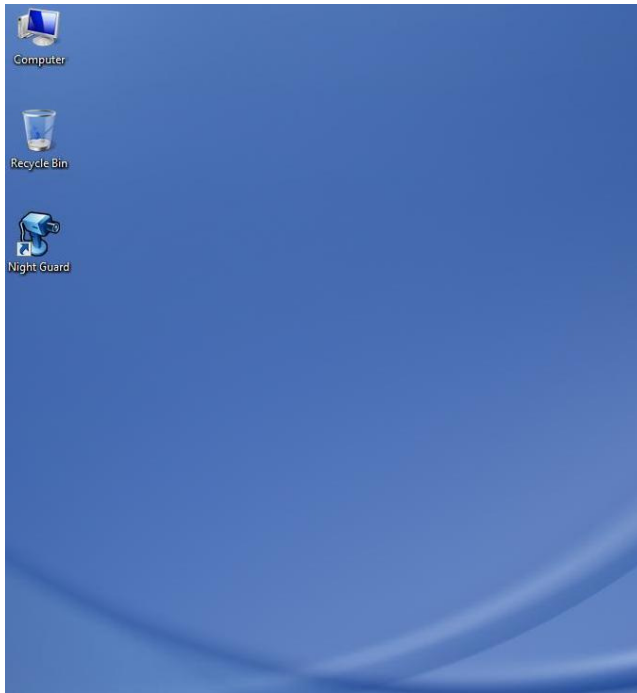
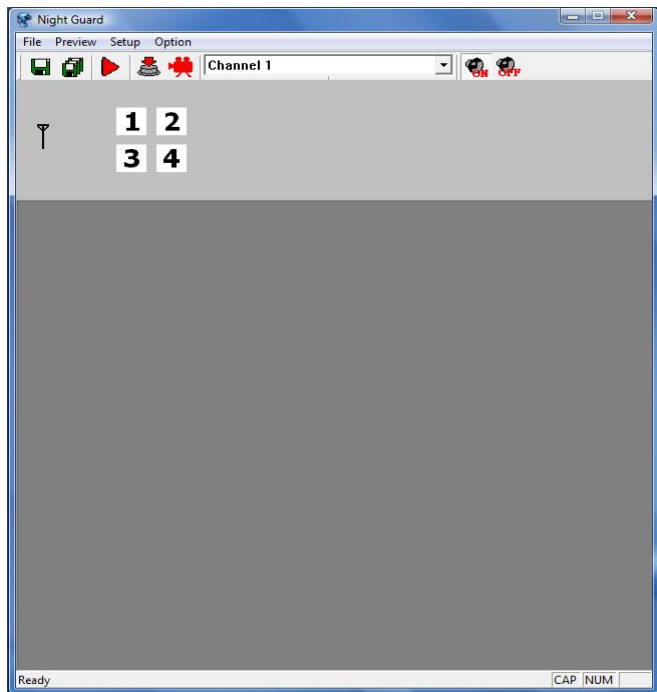
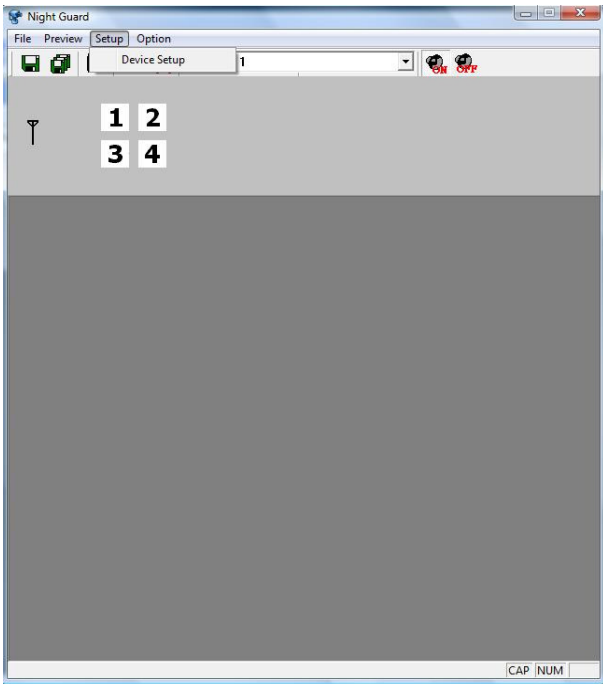
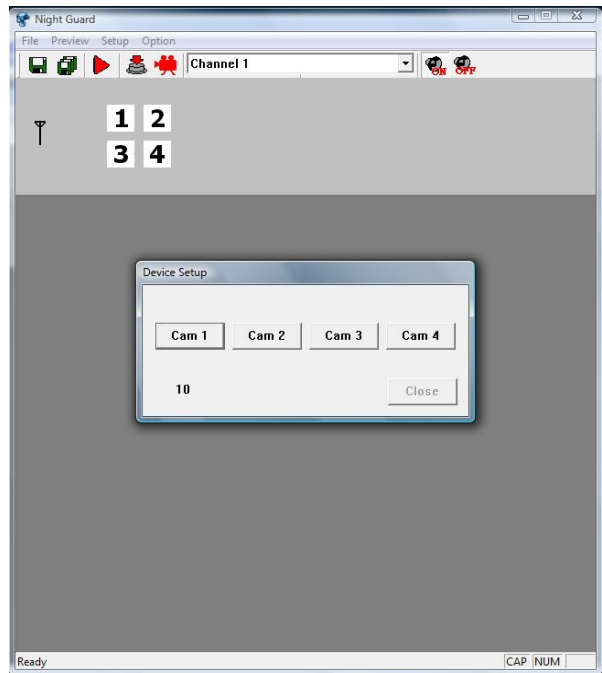

Fig. 12
Fig. 13
Fig. 14
Fig. 15
- Set up the channel of receiver same as the fitting of NW2002 : Plug 752C into a USB port on your PC , 10 seconds later to click Night Guard as show on the screen. Click the Night Guard (Fig. 12) → **Setup** (Fig. 13) → **Device Setup** (Fig. 14) → Choice the number of channel you want **CH1~ CH4** (Fig. 15) → **press Dip Switch button of 9331C-SP8** and when the video is shown on the screen, this channel setup is completed (Fig. 16) → then click **OK** (Fig. 17) .